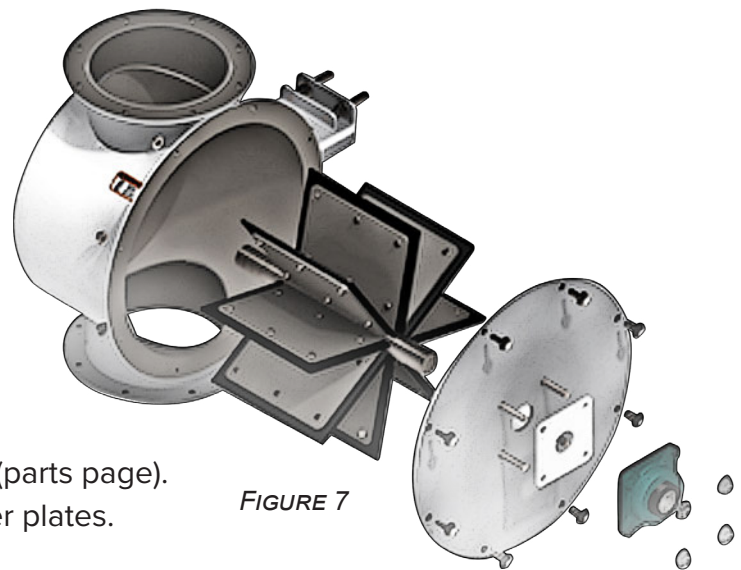

FIGURE 7
7. Remove the bolts on plate (see Figure 7).
9. Remove the end plate (see Figure 7).